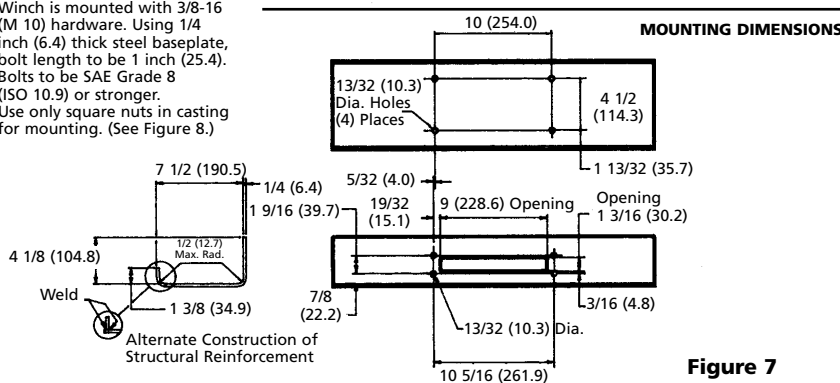

Figure 7
If a Superwinch mounting plate is not used, refer to Figure 7 for a guide to construct a mounting system.
(1) 1/4 inch Hex socket wrench or straight blade screwdriver
- Attach the long black color coded wire and the ground wire from solenoid pack to the motor case. Mount the winch to the mounting kit base plate or to the mount that you designed (see Figure 7).